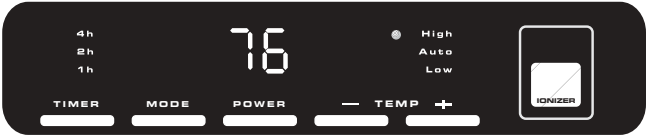

Figure 1
- 6. Upon turning the Heater on, the unit will be in HIGH heat (1500 Watts) and will display the current room temperature **(Figure 1)**